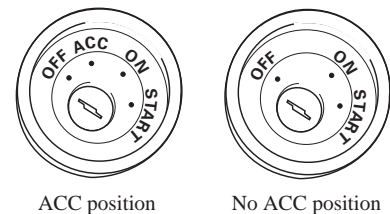

Fig. 1
- If this unit is installed in a vehicle that does not have an ACC (accessory) position on the ignition switch, the red lead of the unit should be connected to a terminal coupled with ignition switch ON/OFF operations. If this is not done, the vehicle battery may be drained when you are away from the vehicle for several hours. (Fig. 1)